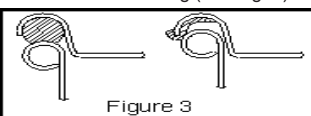

Figure 3
- PLACE COVER ON DRUM** – being careful to properly seat gasket all around curl (see Fig. 3).
- PLACE COVER ON DRUM** – being careful to properly seat gasket around curl (see Fig. 3).